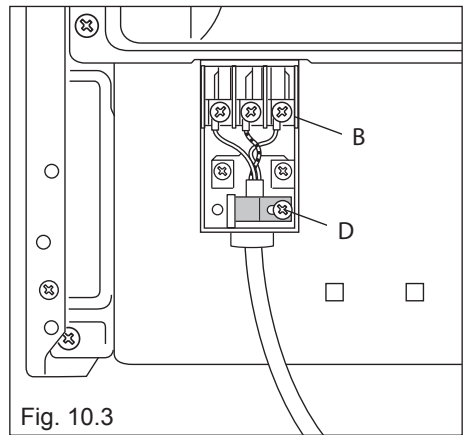

Fig. 10.3
- Unscrew cable clamp “D” (fig. 10.3).